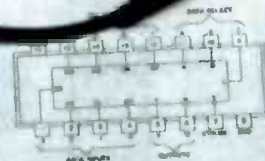

Fig. 17 Pin diagram for 74151A
4. Next, connect the master data switch to the Select and Strobe inputs on the IC, using Fig. 17 as a guide. Finally, set SW₁ through SW₈ to 1.